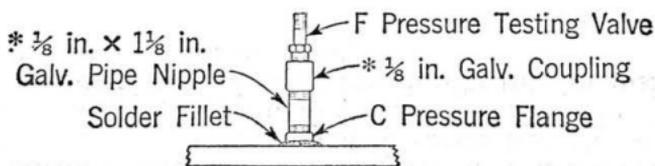

Fig. 8
5.01 On completion of the wire work prepare a lead sleeve having the minimum practical inside diameter. Maximum diameters for the B and C Cable Closures are given in Fig. 8. The lead sleeve length for the B Closure shall be 22 inches; the length of sleeve for the C Closure shall be 20 inches.
5.03 If the cable is to be maintained under continuous gas pressure install the assembly illustrated in Fig. 8. **Note the extra components required for the assembly on the B Splice Closure.**